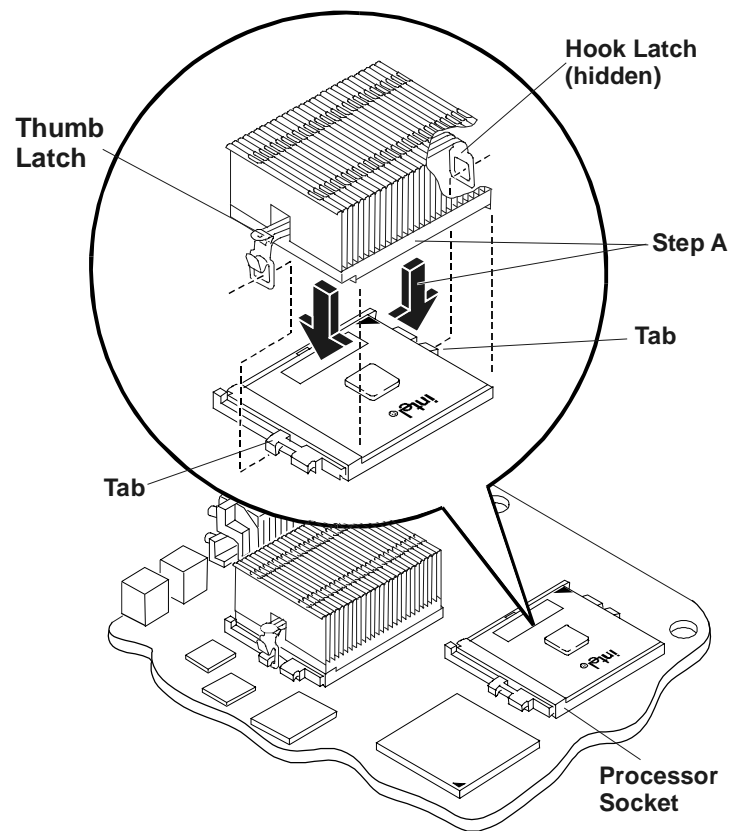

Figure 6-5. Placing the Heatsink on the Processor
- a. Position the heatsink over the processor socket and lower it squarely onto the processor, as shown in Figures 6-5 and 6-6.
The heatsink can only be installed in one direction, with the metal step to the left of processor socket, as shown in Figures 6-5 and 6-6.
Ensure the left ridge on the bottom of the heatsink fits into the groove between the processor socket and processor, while both ridges should straddle the processor. If good contact is not made between the processor and the heatsink, the processor will overheat and possible damage may occur. See Figures 6-5 and 6-6.
3. Tilt the heatsink back towards the hook latch and release the hook latch. See Figures 6-5 and 6-6.